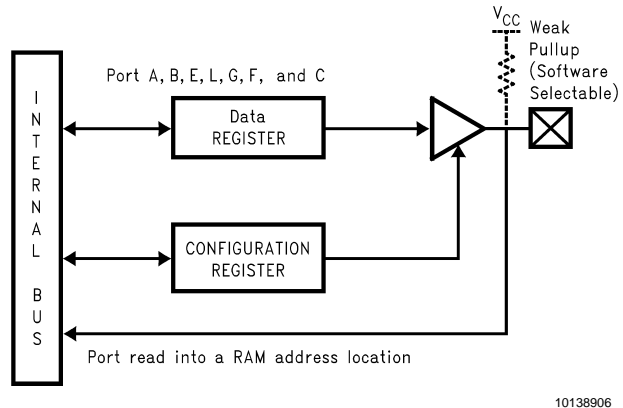

FIGURE 3. I/O Port Configurations
The device contains up to six bidirectional 8-bit I/O ports (A, B, C, E, G and L) and one 4-bit I/O port (F), where each individual bit may be independently configured as an input (Schmitt trigger inputs on ports L and G), output or TRI-STATE under program control. Three data memory address locations are allocated for each of these I/O ports. Each I/O port has three associated 8-bit memory mapped registers, the CONFIGURATION register, the output DATA register and the Pin input register. (See the memory map for the various addresses associated with the I/O ports.) Figure 3 shows the I/O port configurations. The DATA and CONFIGURATION registers allow for each port bit to be individually configured under software control as shown below: